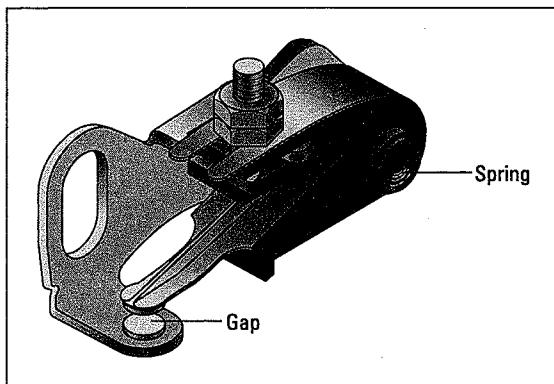

Figure 12-28:
- ⌚ The points on your vehicle may look a bit different from the ones in Figure 12-28, but they work the same way. Here's a rundown of some basic types of points that you may encounter: